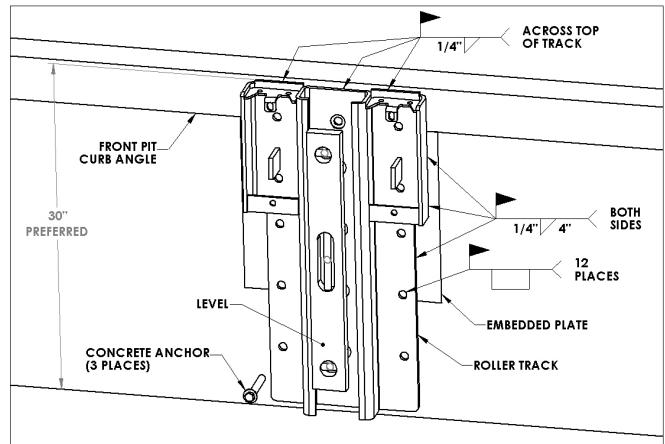

FIGURE 4—WELDING ROLLER TRACK FRONT VIEW
Plug weld all holes that are in contact with embedded mounting plate. All fifteen (15) holes must be either plug welded or anchored. See Figure 4.